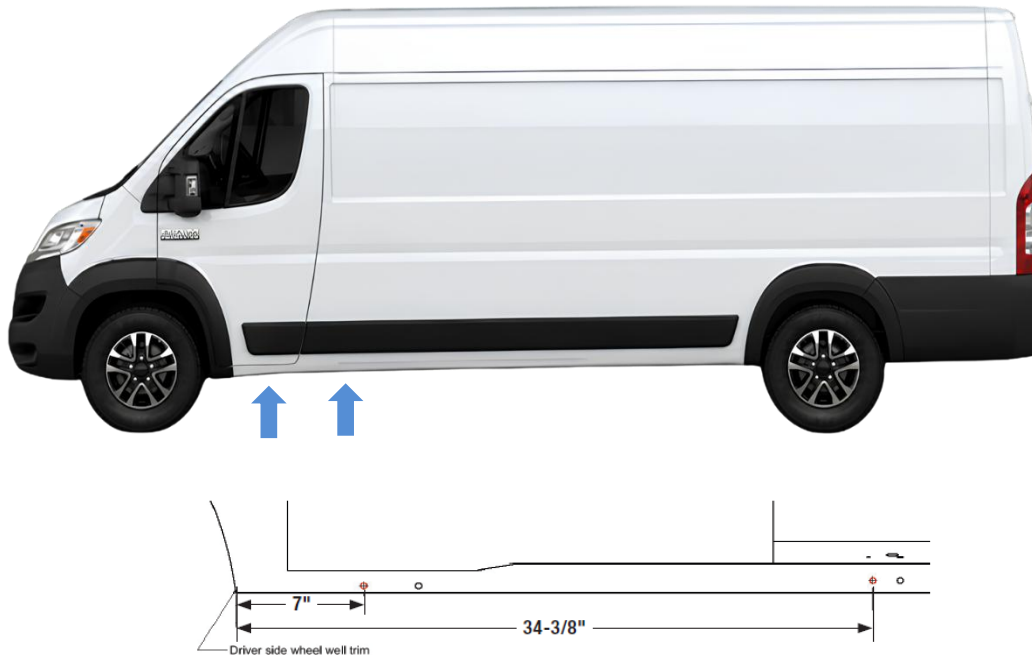

Figure 1
Step 1 As shown in **Figure 1**, mark the pinch weld for the front hole of each bracket (4 & 5). Position the front bracket (4) hole 7" behind the wheel well and the rear bracket (5) hole 34-3/8" behind the wheel well.